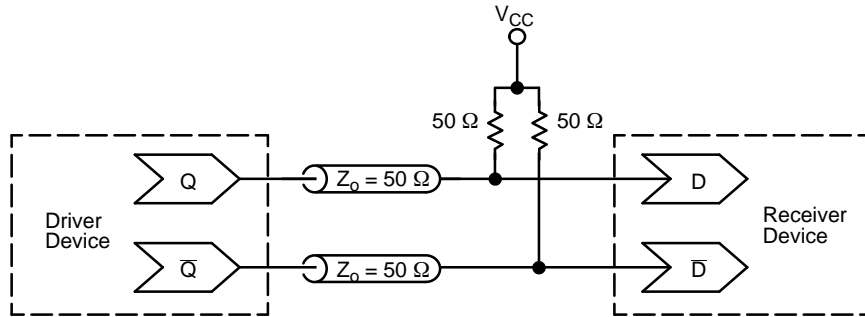

Figure 10. Typical Termination for Output Driver and Device Evaluation
- CML outputs require  $50\ \Omega$  receiver termination resistors to  $V_{CC}$  for proper operation (Figure 10).